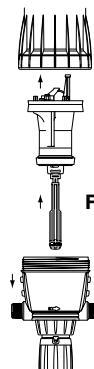

Fig. 17
- Remove the motor piston (Fig. 17) by pulling it up.